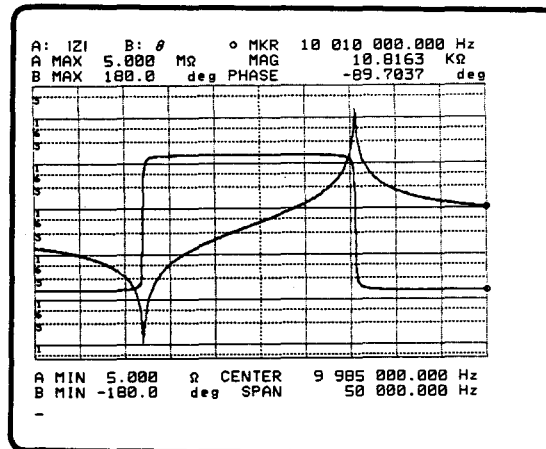

Figure 3-160. F Characteristics Calculation and Measurement Data
- Press the '**SIMULATE f CHAR**' softkey. The "Calculating f characteristics" message is displayed for several seconds. Then the "Calculation complete" message will be displayed, and the calculated frequency characteristics and the measurement data taken in step 4 will be displayed together, see Figure 3-160. If the calculated parameters are very accurate, the calculated characteristics and the measurement data will overlap.